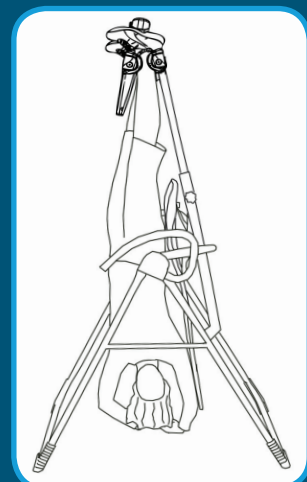

Figure 11
- Slowly raise both hands over your head to begin rotation. You may need to assist the last few degrees of rotation by pushing on the floor or A-frame until the Table Bed pulls away from your back (Figure 11). In your correct balance setting, your weight will keep the Table Bed “locked” in this position until you are ready to return upright.